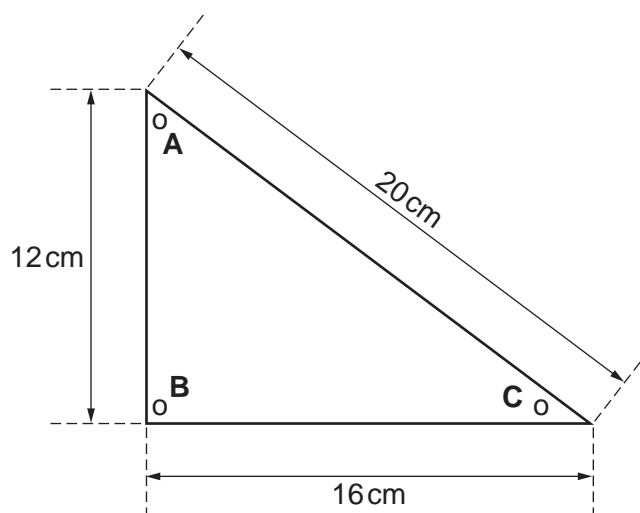

Fig. 3.1
- (iii) Holes should be punched in the card close to each of the corners of the triangle. The holes should be of sufficient diameter so that the hole can easily pass over the head of the nail. The corners of the triangle should be labelled **A**, **B** and **C** as shown in Fig. 3.1.